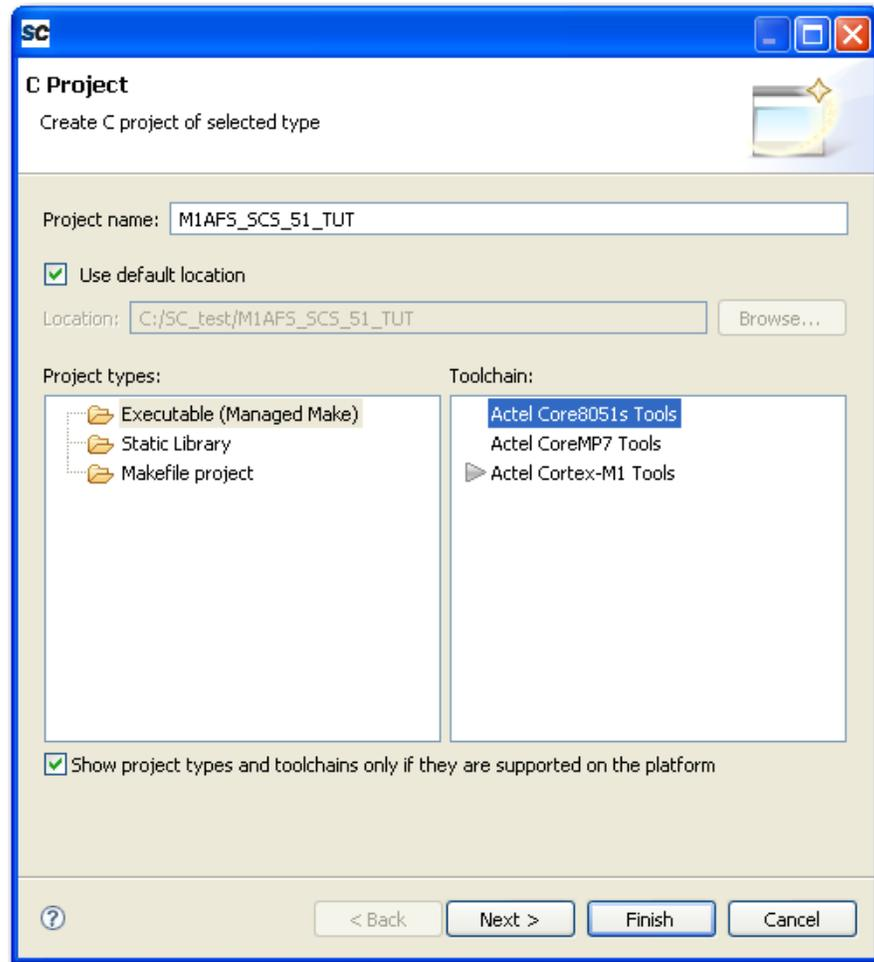

Figure 1-3 · Selecting Target Device
- Select Actel Core8051s Tools for the toolchain. Click Finish (Figure 1-3).